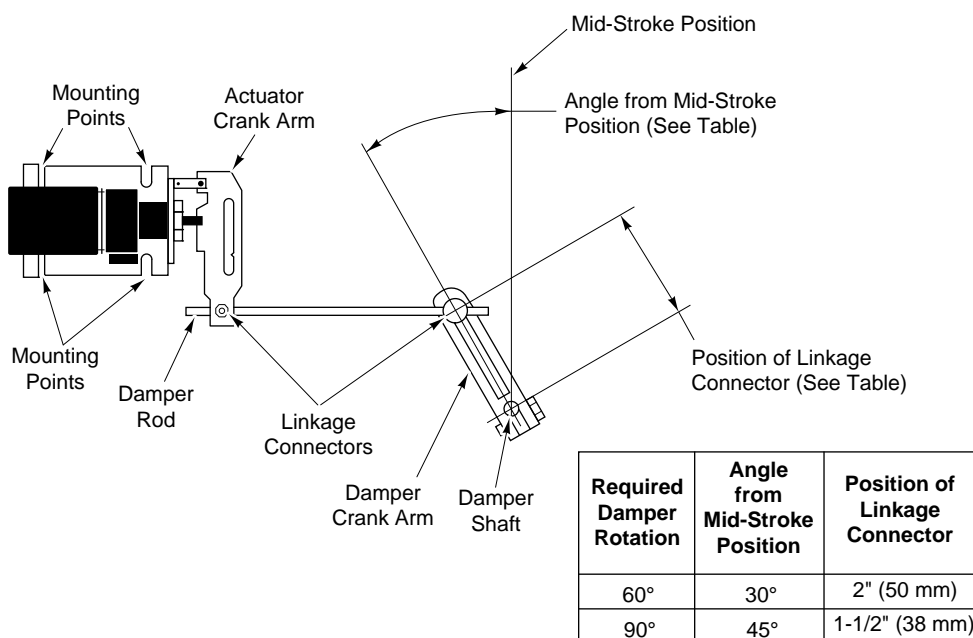

Figure-16 Recommended Actuator/Damper Mounting.
- c. If possible, select a mounting position such that, at mid-stroke, the actuator crank arm and the damper crank arm on the drive shaft are each at a 90° angle to the damper rod (refer to Figure-16). This is the recommended mounting position. It may be necessary to swivel the actuator linkage to arrive at this mounting location.
4. Mount a ball joint connector in the slot on the damper crank arm. To achieve 90° of damper rotation, position the connector 1-1/2" (38 mm) from the centerline of the shaft hole on the crank arm. For 60° of damper rotation, position the connector 2" (50 mm) from the shaft hole centerline. Typically, 60° to 70° of rotation (maximum is 90°) is sufficient to permit almost maximum air flow through the dampers. Refer to Figure-16 .
5. Rotate the damper to its open position. Install and secure the damper crank arm (with ball joint connector) to the damper shaft, positioning the crank arm as follows (refer to Figure-16):